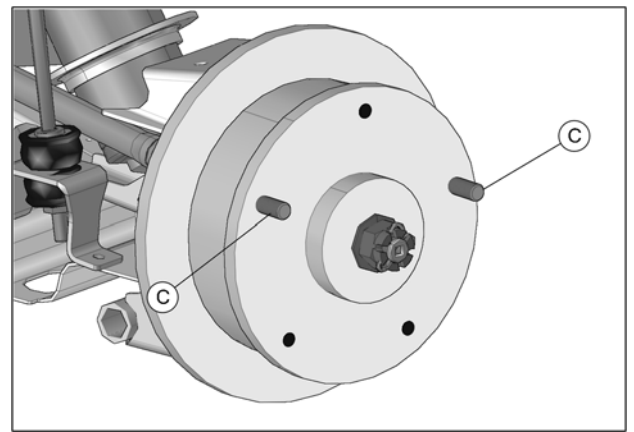
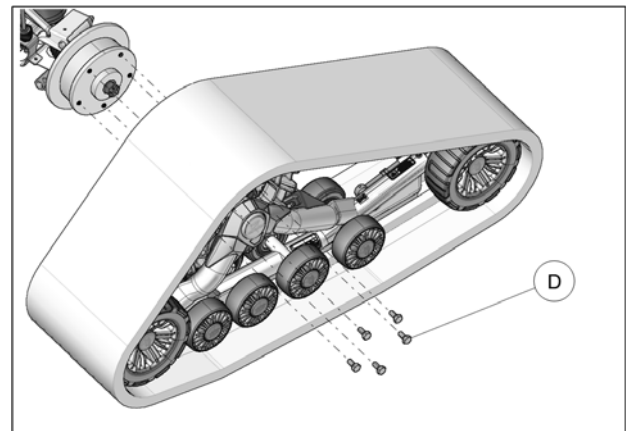

Fig. 6
Fig. 7
**CAUTION:** Screw the supplied threaded studs (**C**) in the hub to help position the System correctly on it. See Fig. 6
7. Secure the undercarriage to the rear hub using the provided wheel bolts (**D**). To install the Track System, screw the two threaded studs (**C**) provided at the 10 and 2 o'clock positions on the hub. Slide the undercarriage on the studs, and bolt it to the hub with three wheel bolts. Remove the studs and install the last two wheel bolts. See Fig. 6 and Fig. 7